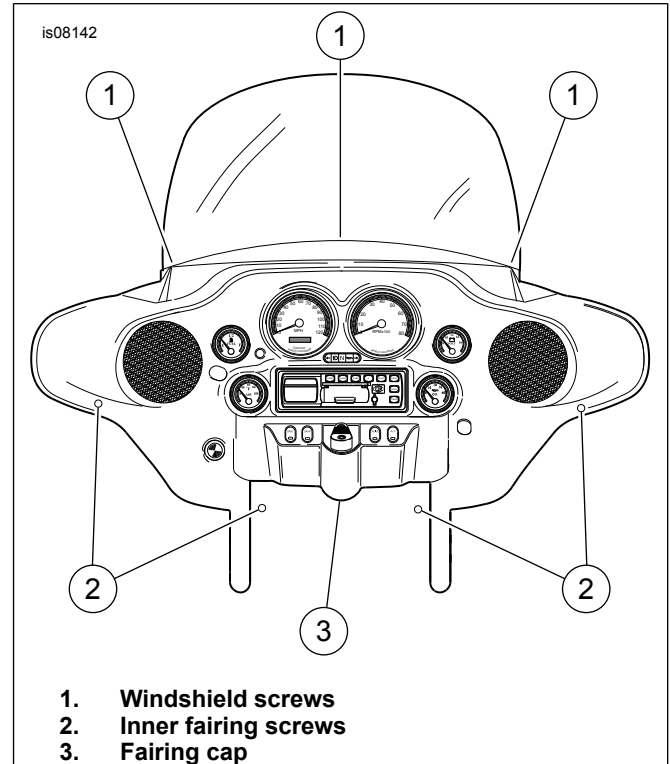

Figure 1. Windshield and Fairing Hardware
2. See Figure 1. Standing in front of the vehicle, remove the three T27 Torx screws (1) with washers securing the windshield along the front of the fairing.
4. See Figure 1. The six straps (three on each side near the bottom) will be captured between the inner and outer fairing. Remove the four screws (2) from the inner fairing. NOTE: The bottom two screws are below the fairing cap. Save screws for installation. Separate the inner and outer fairings just enough to install the straps into the fairing. Adjust the straps, then install the screws and tighten securely.